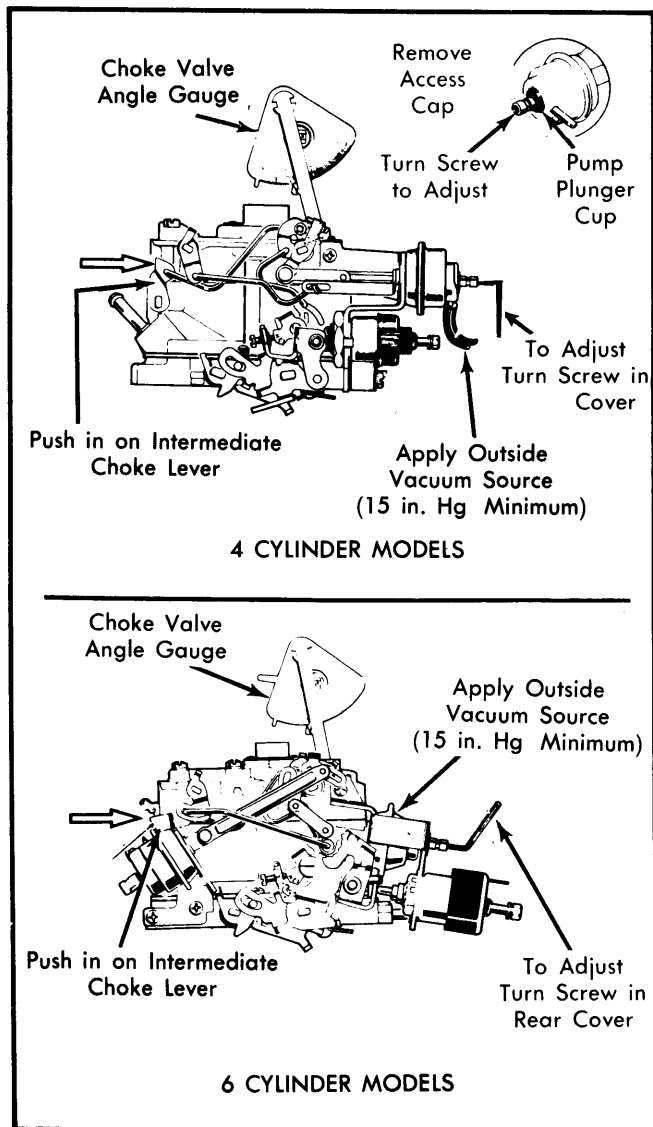

Fig. 7 Primary Vacuum Break Adjustment
1) Remove primary choke vacuum break from carburetor, place bracket in a vise, and carefully grind off adjustment screw cap. Using an outside vacuum source, seat choke vacuum break diaphragm. See Fig. 7. Be sure air valve rod permits seating and does not interfere.